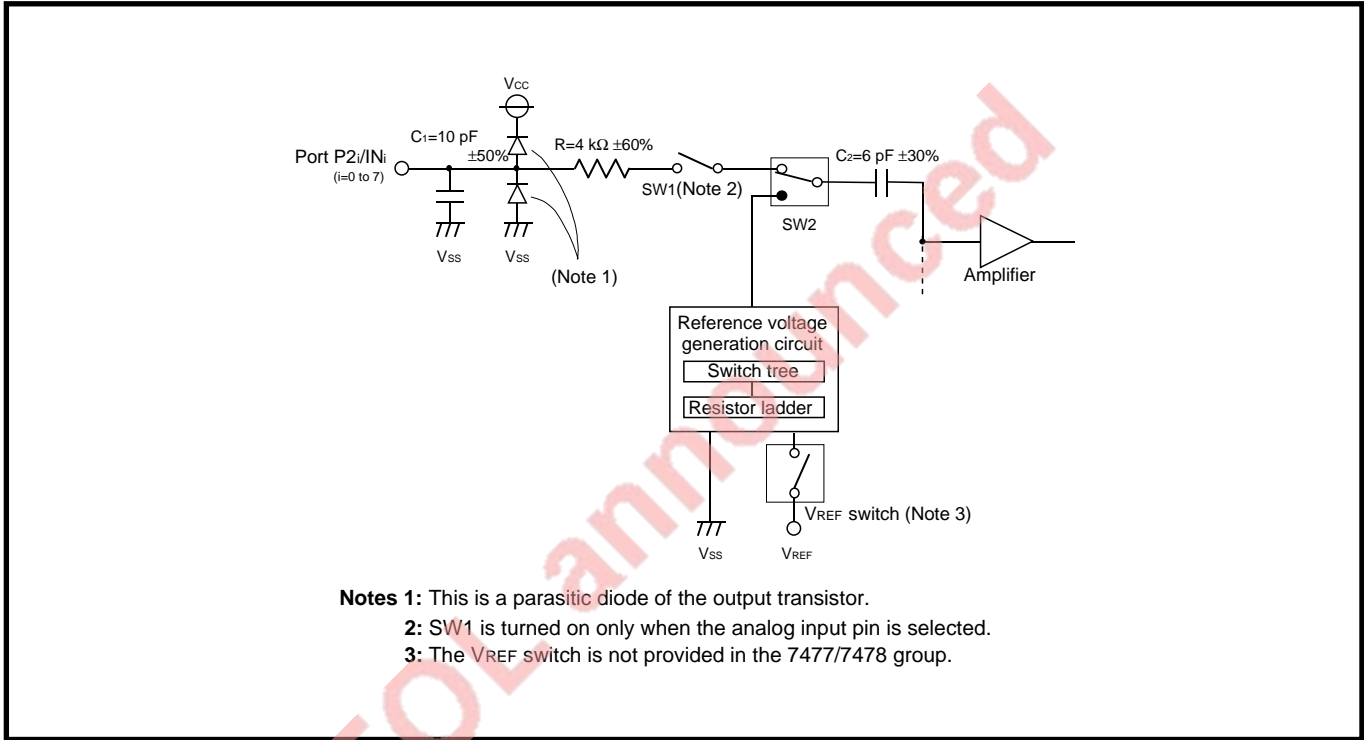

Fig. 2.5.3 Analog input internal equivalent circuit
- The analog input internal equivalent circuit is shown in Figure 2.5.3. For correct A-D conversion, it is necessary that the internal capacitor should be completely charged within the specified time. The maximum value of output impedance of the analog input source required to terminate capacitor charging within this time is shown below.